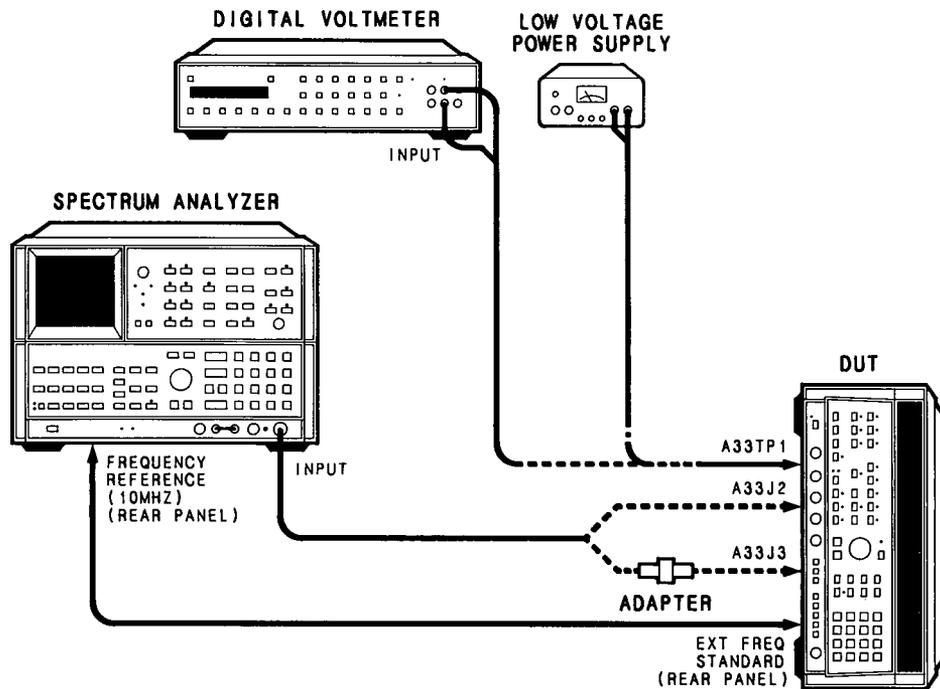

Figure 5-7. M/N Loop Adjustment Setup
1. Position the DUT in the test position as shown in Figure 5-7 with bottom cover removed. On the DUT's rear panel, disconnect the BNC cable connected between INT and EXT Frequency Standard connectors, set INT/EXT switch to EXT, then connect a BNC cable from the DUT's EXT connector to spectrum analyzer frequency reference (10 MHz) rear-panel connector. Allow one-half hour warm up time.